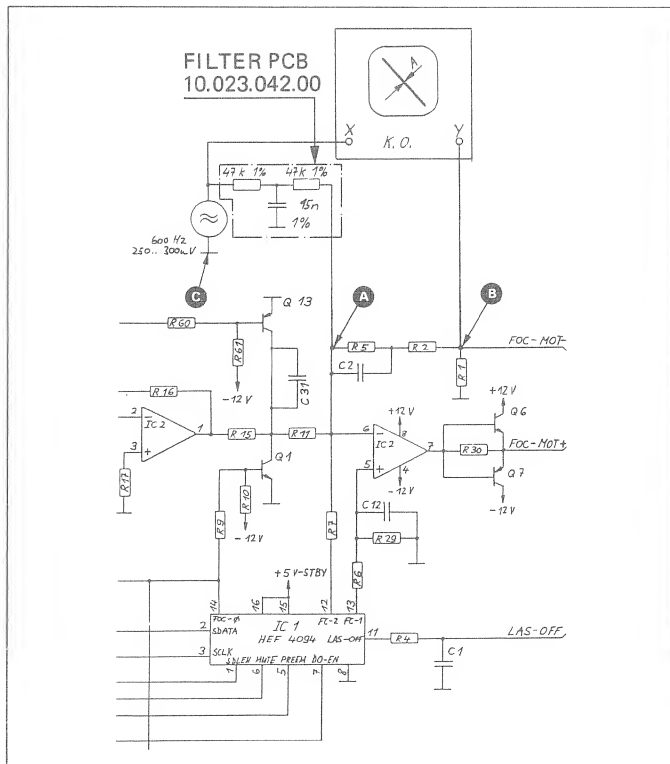

Fig. 4.17
- Connect AF generator to the X input of the 2-channel oscilloscope and simultaneously via the filter PCB (part No. 10.023.042.00) to R7 of the SERVO 1 PCB 1.769.310 (see Figs. 4.17 and 4.18, item "A").
- Connect Y-input of the 2-channel oscilloscope to R1/R2 on the SERVO 1 PCB 1.769.310 (see Figs. 4.17 and 4.18, item "B") and switch oscilloscope to X/Y mode.
- With the FOCUS GAIN trimmer potentiometer on the player mechanism align amplitude A of the Lissajous figure to the minimum (see Fig. 4.17).
- Connect DC voltmeter (range 150 mV) to R1 (SERVO 1 PCB 1.769.310) as illustrated in Fig. 4.17/4.18, item "B".